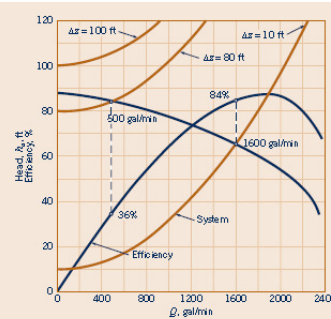

Figure E12.4d
**COMMENT** By repeating the calculations for  $\Delta z = z_2 - z_1 = 80 \text{ ft}$  and  $100 \text{ ft}$  (rather than the given  $10 \text{ ft}$ ), the results shown in Fig. E12.4d are obtained. Although the given pump could be used with  $\Delta z = 80 \text{ ft}$  (provided that the  $500 \text{ gal/min}$  flowrate produced is acceptable), it would not be an ideal pump for this application since its efficiency would be only 36%.
Energy could be saved by using a different pump with a performance curve that more nearly matches the new system requirements (i.e., higher efficiency at the operating condition). On the other hand, the given pump would not work at all for  $\Delta z = 100 \text{ ft}$  since its maximum head ( $h_p = 88 \text{ ft}$  when  $Q = 0$ ) is not enough to lift the water  $100 \text{ ft}$ , let alone overcome head losses. This is shown in Fig. E12.4d by the fact that for  $\Delta z = 100 \text{ ft}$  the system curve and the pump performance curve do not intersect.